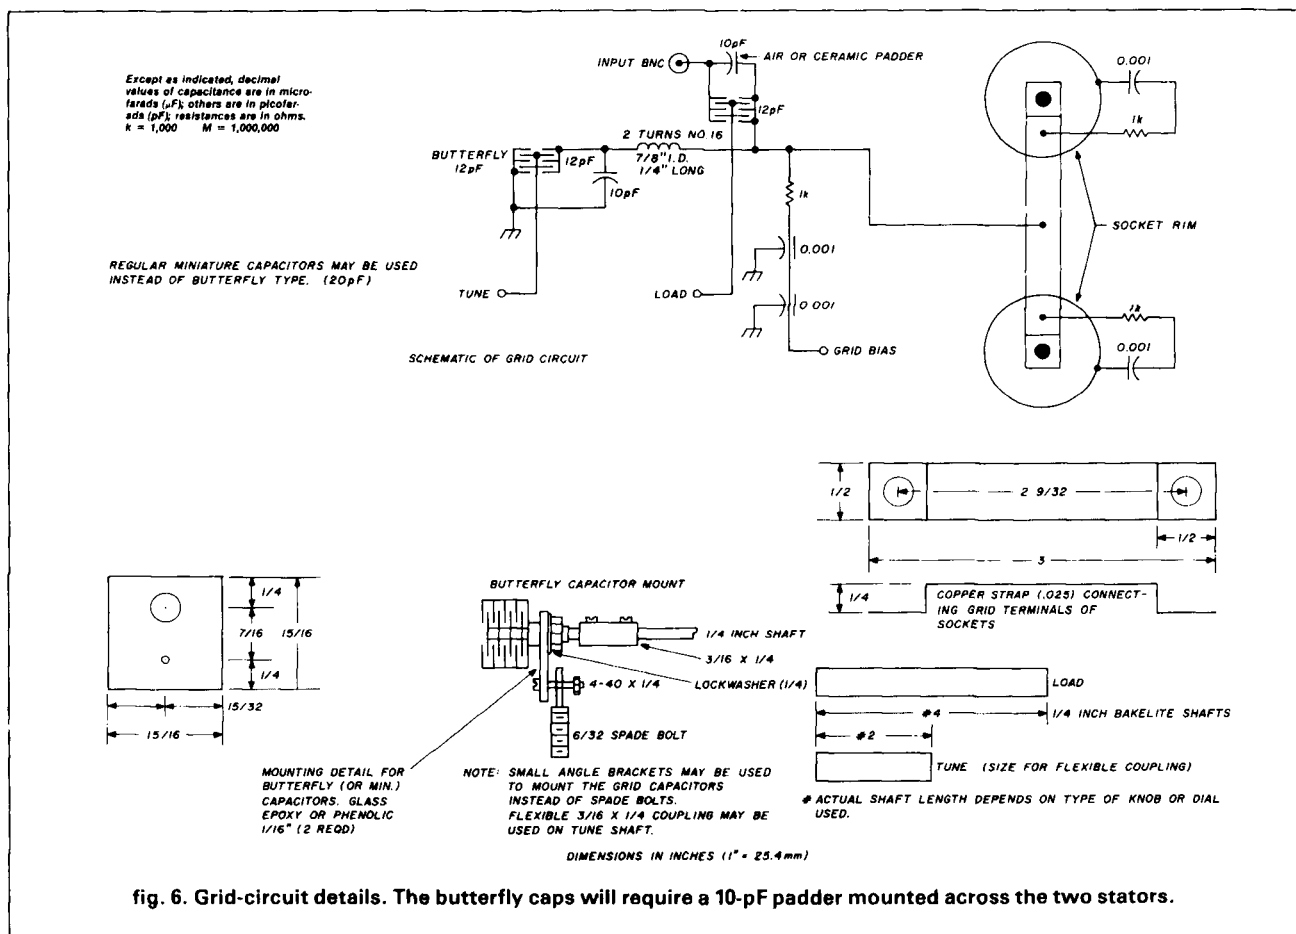

fig. 6. Grid-circuit details. The butterfly caps will require a 10-pF padder mounted across the two stators.
Grid circuit. Details of the grid circuit are shown in fig. 6. Miniature capacitors (20-pF) may be substituted for the butterfly caps. The advantage of the costly butterfly cap is that no bearings are included in the rf path. The 2-11 pF butterfly caps will require a 10-pF padder mounted across the two stators.
5. Mount the butterfly caps in the grid box (fig. 6) and install the tune and load controls.
6. Install the grid line, grid coil and resistors as in fig. 6.